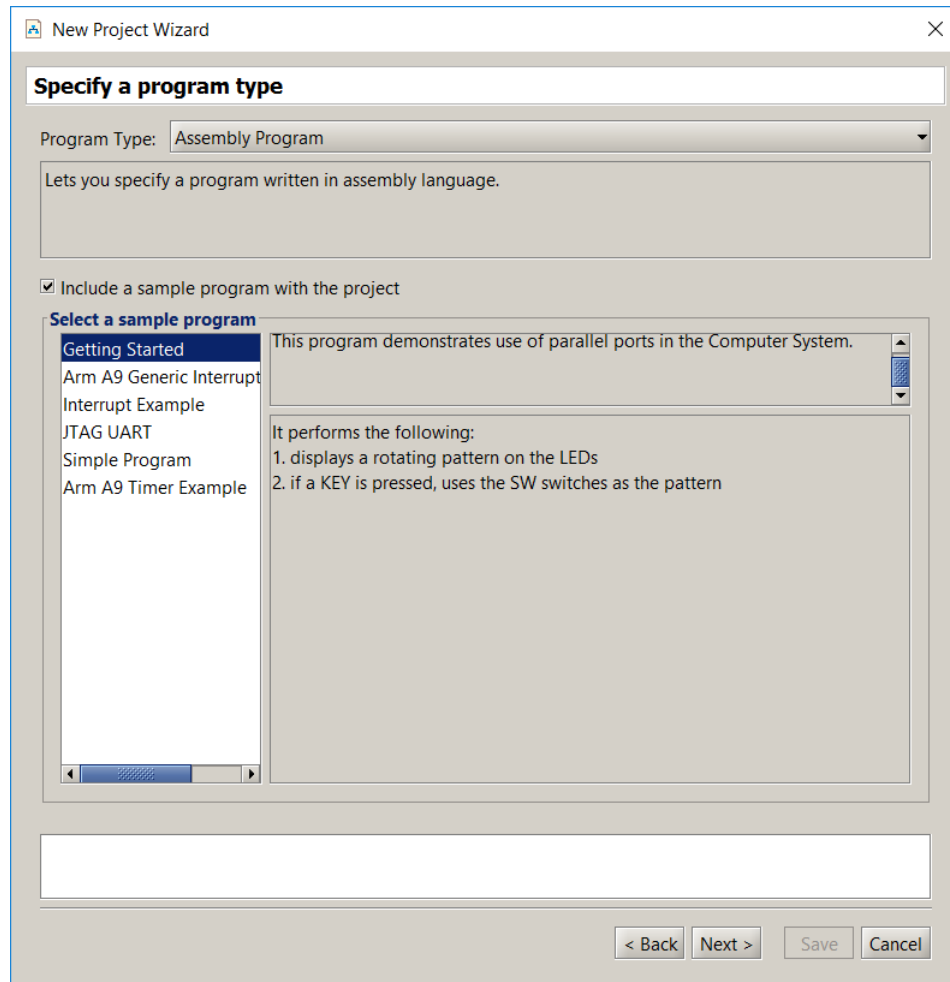

Figure 7. Selecting a program type and sample program.
3. Click **Next** to advance to the screen in Figure 7, which is used to specify the program source files that are associated with the project. The **Program Type** drop-down list can be used to select one of the following program types:
For our example, set the program type to **Assembly Program**. When the DE1-SoC computer has been selected for the project, it is possible to click on the selection **Include a sample program with the project**. As illustrated in Figure 7, several sample assembly-language programs are available for this prebuilt computer. For our tutorial select the program named *simple\_program*. This is a very simple program which continuously reads the state of the slider switches on the DE1-SoC board and displays their state on the red LEDs. The source code for the program is: